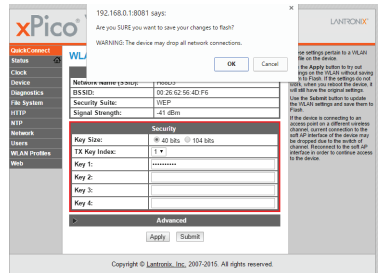

Figure 21: Complete Connection
- Click on the OK button in the dialog box. Ignore the displayed warning during the final process. **Note:** The device in the warning is XPicoWiFi. See Figure 21.